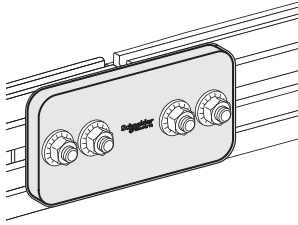

Fig. 19: Horizontal non-sliding fishplate option for linergy busbars
■ **Joining linergy bars with horizontal non-sliding fishplate (see Fig. 19):**